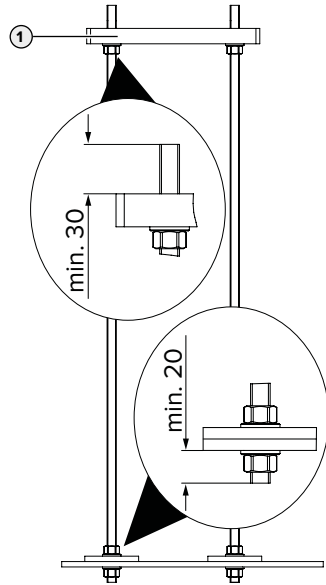

Fig. 2: Position of the washers and nuts [mm]
- ▶ Secure each flat steel bar with a nut and a washer, taking account of the Fig. 2. Make sure that the foundation fixing set is aligned in the horizontal position.
- ▶ Assemble the associated foundation plate (1) (available as an accessory), taking account of the Fig. 2 on the foundation fixing set.